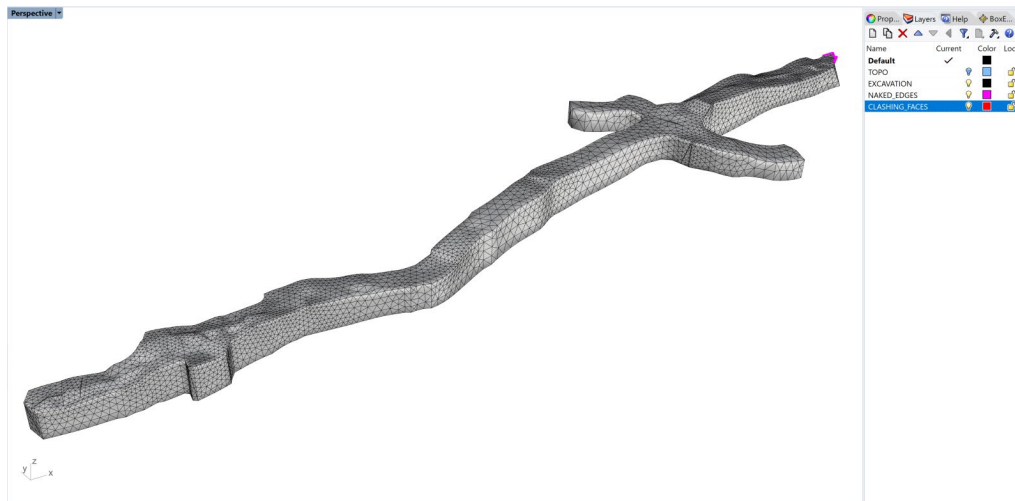

Figure 70: Remeshed and fixed drift mesh. (The grid and topographic mesh are not shown.)
14. Select the drift mesh only and fix the remaining issues by calling **\_GHeal** → *AutomaticHeal* → *IssuesToFix*, set *RemoveProtrusions* = *Yes* and all others to *No*, press **Enter**, and keep *Parameters* = *Automatic*. After fixing the drift mesh, the only remaining problems are a few faces that stick out from the front part of the drift as shown by the pink outlines in Figure 70. They will be resolved later when finalizing model construction.